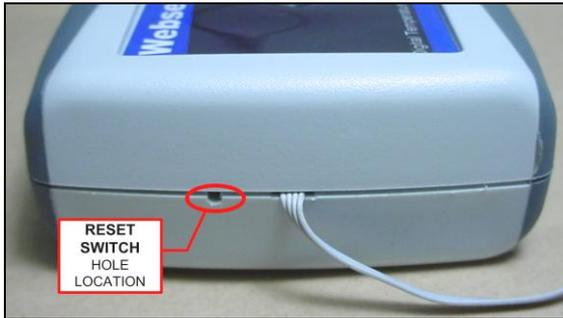

Figure 6 – Location of RESET SWITCH.
The only time data may be changed on this page is during the first five (5) minutes after a “power-up” or by pressing the reset button (See Figure 6 for reset button location). In this way the page is protected from being changed inadvertently (or maliciously).